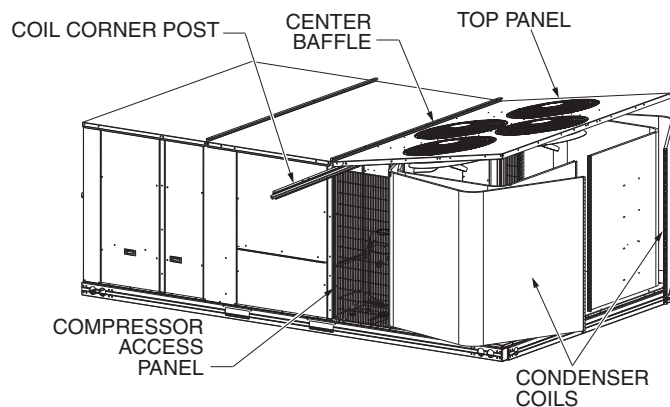

Fig. 11 — Propping Up Top Panel
5. Hold the top panel open by placing the coil corner post between the top panel and the center post. See Fig. 11.